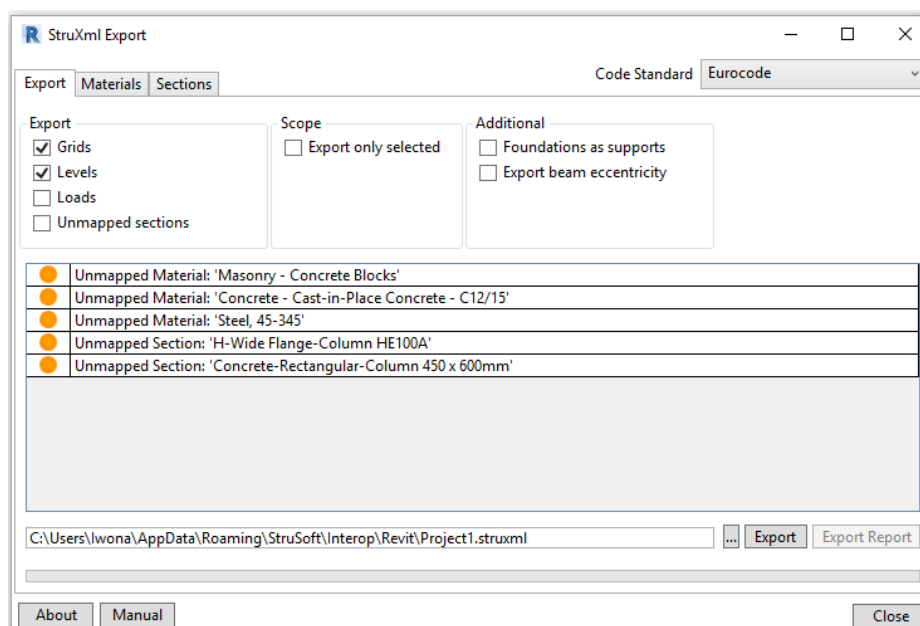

Figure III-36
- 7.1.2. After launching StruXML Export dialog there is a list of warnings about unmapped elements, as shown in Figure III-36.